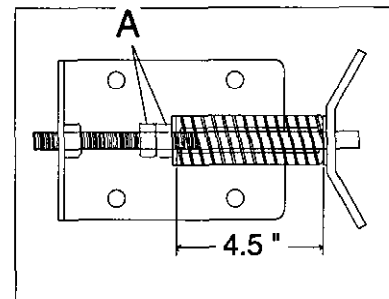

Figure 11
2. Loosen the nuts (A) on the spring rod to release the tension.(See Figure 11).
1. Tighten the nut on the spring rod until the spring is compressed to 4-1/2" as shown in Fig. 11. Be sure the front roller is parallel with the drive roller. This can be done by measuring the distance between the drive roller bearing bolt and the idler roller bearing bolt on each side. If there is a difference tighten the nut on the spring rod until distance on both sides is equal.